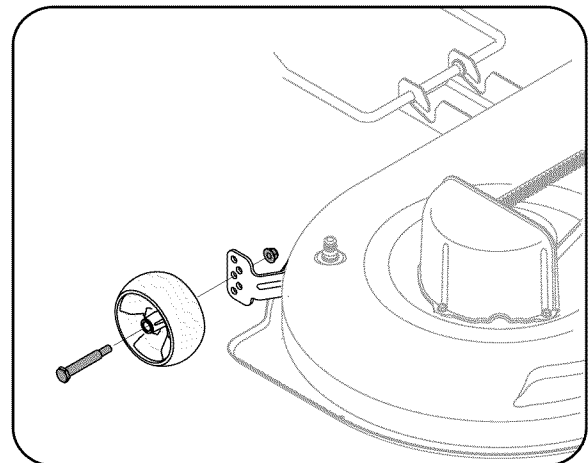

Figure 6-8
- Remove the hex flange lock nut and shoulder bolt securing one of the front ball wheels to the front index bracket. Reposition the ball wheel to align with the one of five index holes that places the wheel 1/4" to 1/2" above the ground. Secure the ball wheel to the index bracket with the shoulder bolt and flange lock nut. Note the index hole used and secure the other ball wheel in the same position. See Figure 6-8.